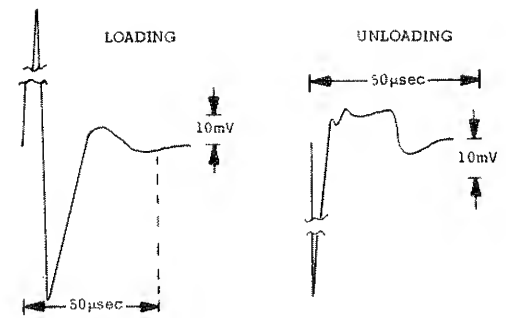

Figure 5-8. Transient Recovery Time, Waveforms
- Adjust 25K potentiometer until a stable display is obtained on oscilloscope. Waveform should be within the tolerances shown in Figure 5-8 (output should return to within 10 mv of original value in less than 50 microseconds).